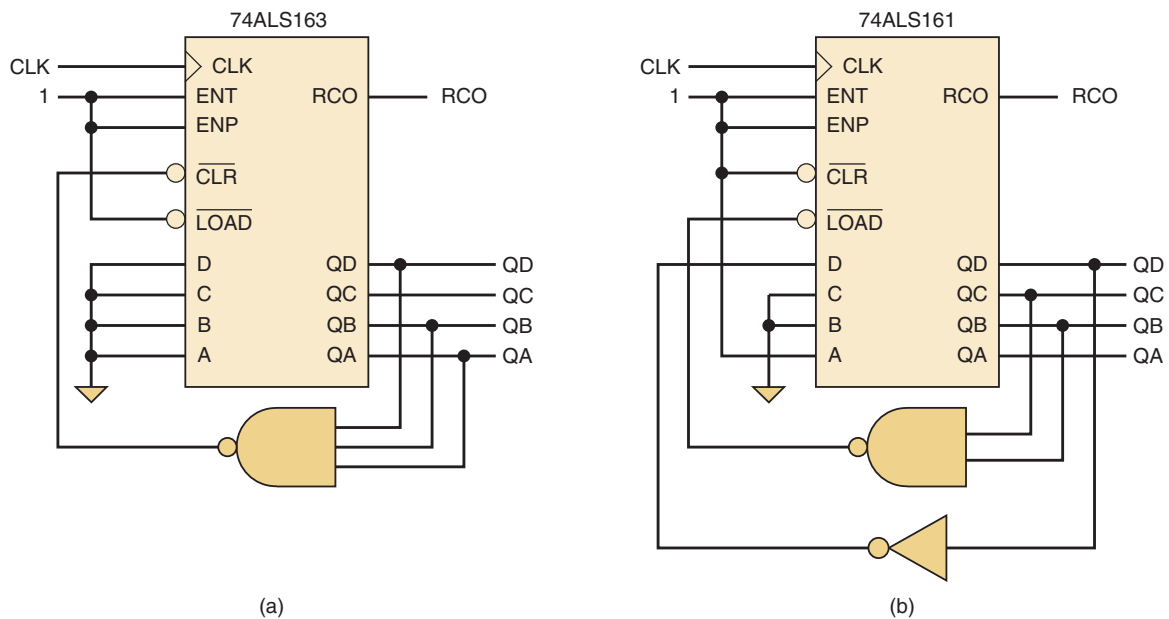

FIGURE 7-106 Problems 7-21 and 7-22
B 7-21* Refer to the IC counter circuit in Figure 7-106(a):
- B** 7-22. Repeat Problem 7-21 for the IC counter circuit in Figure 7-106(b).